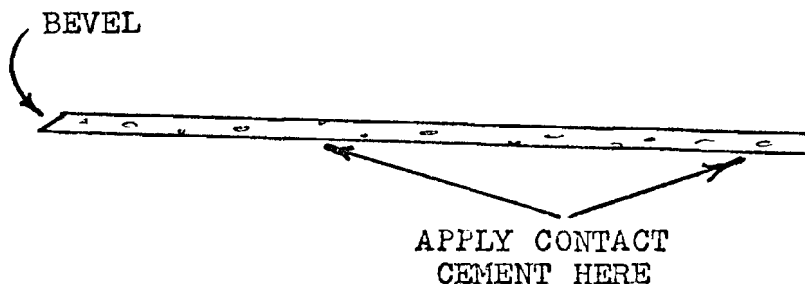

Figure 38
- f) Bevel one end of the cut cork as in Figure 38.
- g) Coat the cleaned tenon groove, the bottom side of the cut cork, and its beveled end with a thin layer of contact cement (see Figure 38, page 86.